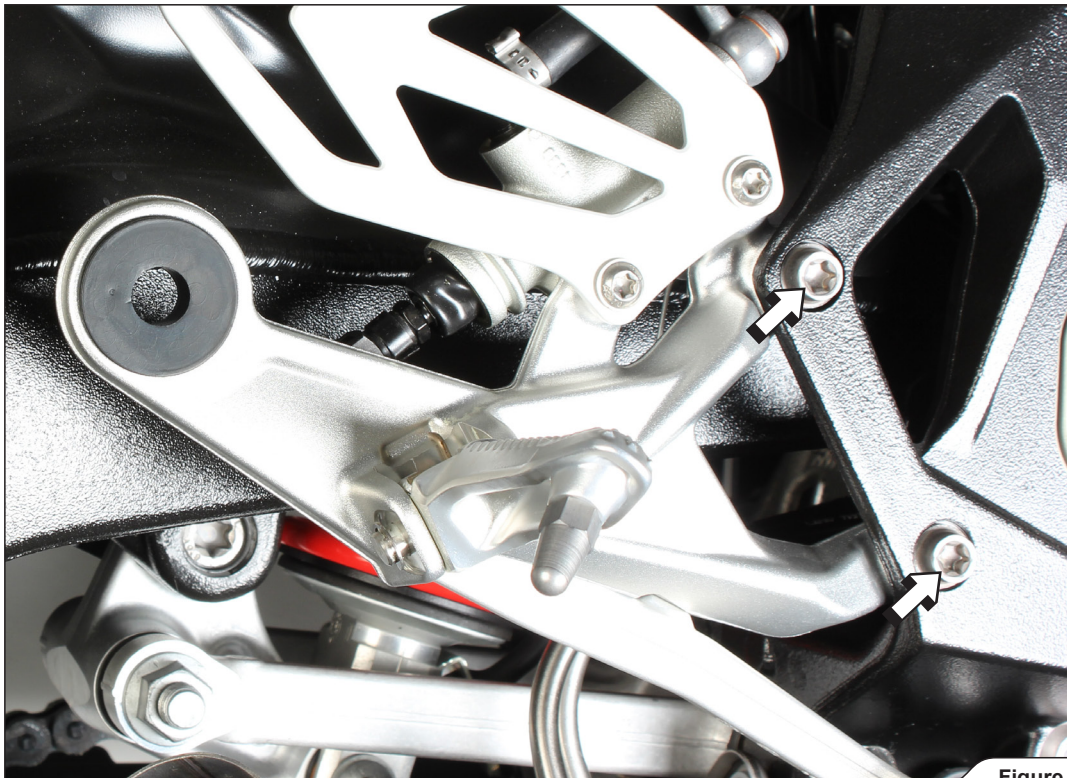

Figure 1
3. Unscrew the right foot peg and move it out of the way (**Figure 1**).